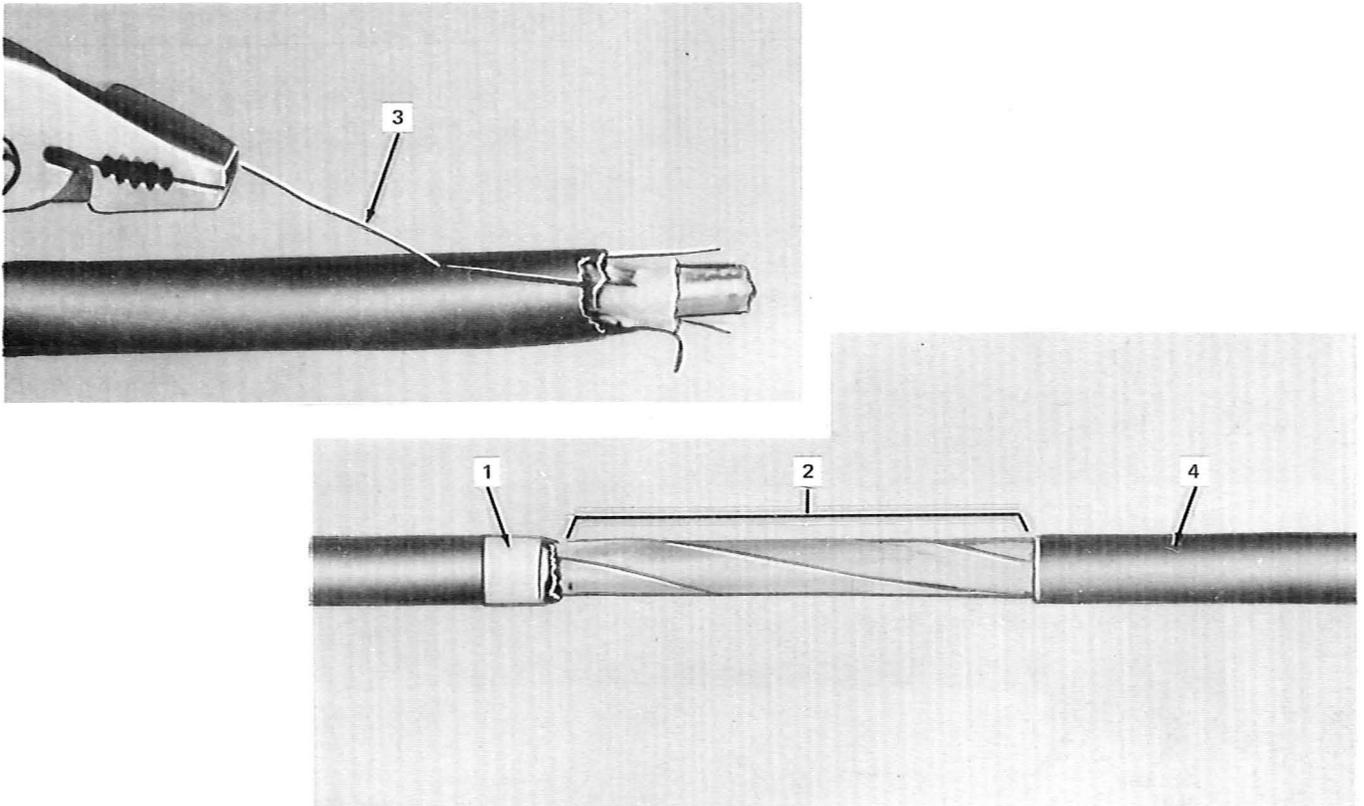

Fig. 22—Removing Outer Sheath and Inner Layer of Wires
- 4.08 Prepare the 3- or 6-unit stranded, singleply sheath as outlined in Fig. 22 through 27.